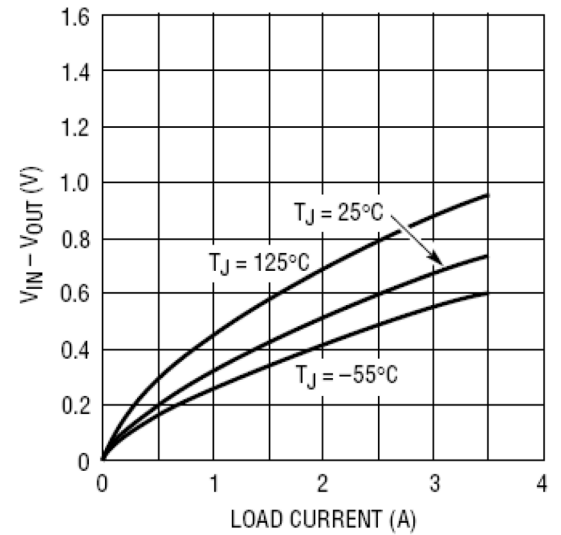

Figure 4 - RH1185 Dropout Voltage Typical Curve
- 6) Dropout voltage is tested by reducing input voltage until the output drops 1% below its nominal value. Tests are done at 0.5A and 3A. The power transistor looks basically like a pure resistance in this range so that minimum differential at any intermediate current can be calculated by interpolation; $V_{DROPOUT} = 0.25\text{V} + (0.25\Omega \times I_{OUT})$. For load current less than 0.5A, see Figure 4.